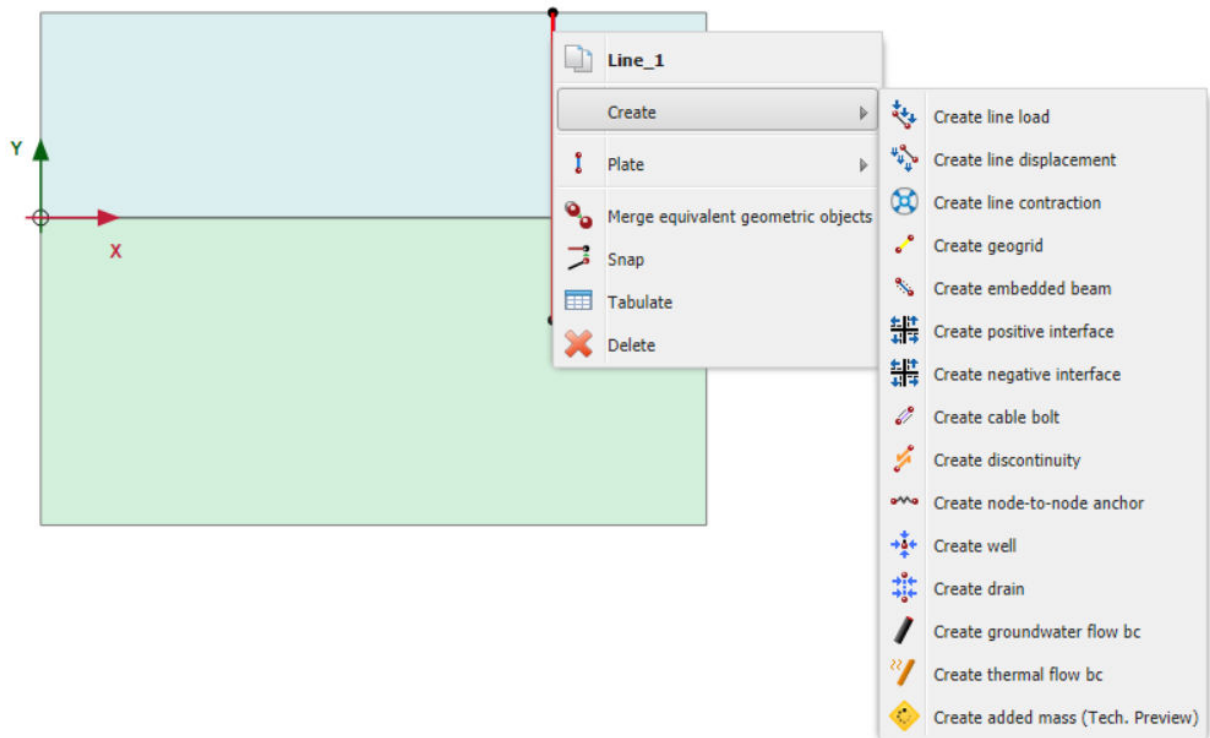

Figure 44: Create positive interface
3. In the same way assign a negative interface as well as shown in Figure 44 (on page 59).